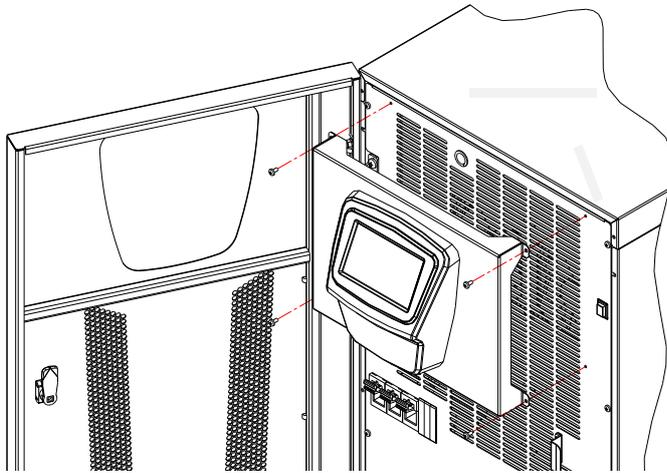

Figure 18
- 3) Remove from the display the RJ45 cable (Figure 18).